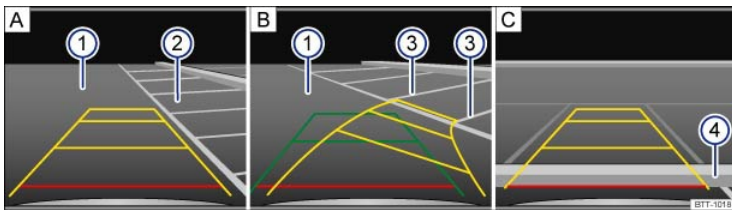

Fig. 162 Orientation lines for perpendicular parking (Mode 1).
Key to ⇒ Fig. 162:
1.	Position the vehicle in front of a parking space ⇒ Fig. 162②A.
2.	Shift into Reverse (R).
3.	Slowly back up and steer so that the yellow orientation lines ⇒ Fig. 162③ lead into the selected parking space B. Observe the following message: Look! Safe to move? ⇒ ▲ !
4.	Align the vehicle in the parking space so that the green and yellow orientation lines ⇒ Fig. 162③ are parallel to the selected parking space B.
5.	At the latest when the rear boundary of the parking space, such as a curb ⇒ Fig. 162④ is reached, stop the vehicle C.
9.	Stop the vehicle by at least by the time the perpendicular red line touches the rear boundary ⇒ <a href="#">Fig. 162④</a> of the parking space, such as the car parked behind you ⇒ <a href="#">Fig. 163C</a> .